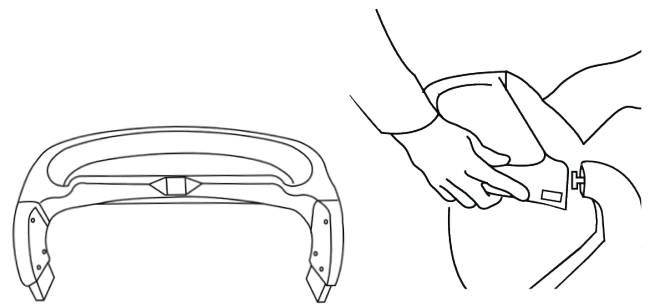

Fig. 6
9. To attach the child tray: Rotate and align left and right side of child tray posts with the left and right side stroller tray posts. Press left and right side child tray posts into left and right side stroller tray posts into a fully locked position. Press left side child tray button and snap child tray onto stroller tray posts. Release button to lock child tray onto stroller (Fig. 6). Repeat on right side of child tray. Check to make sure the child tray is securely attached to the stroller by pulling upward on the child tray.